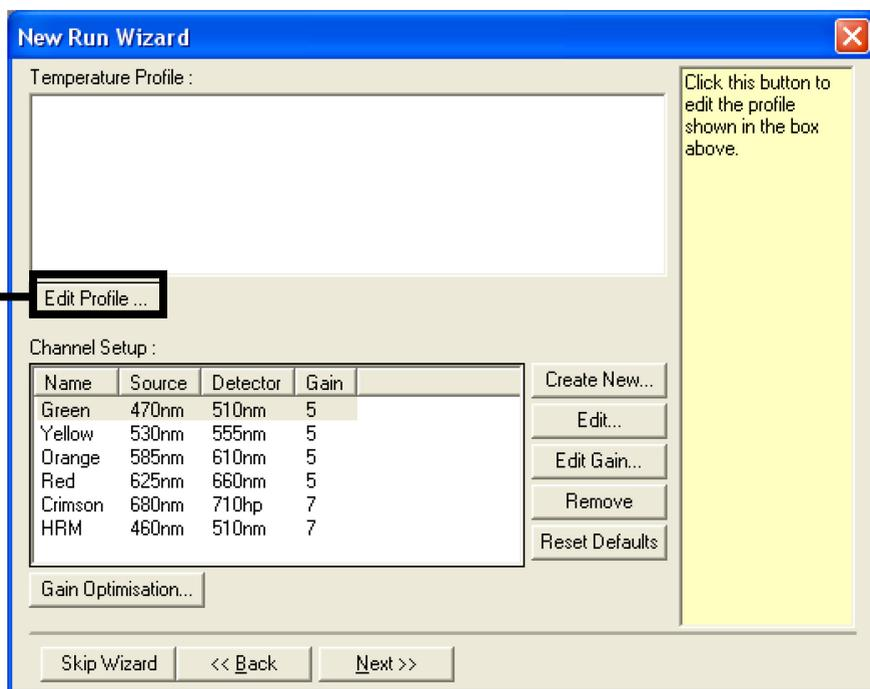

Figure 11. Editing the profile.
5. Click "Edit Profile" in the "New Run Wizard" dialog box (Figure 11) and program the temperature profile according to the information in the following steps.